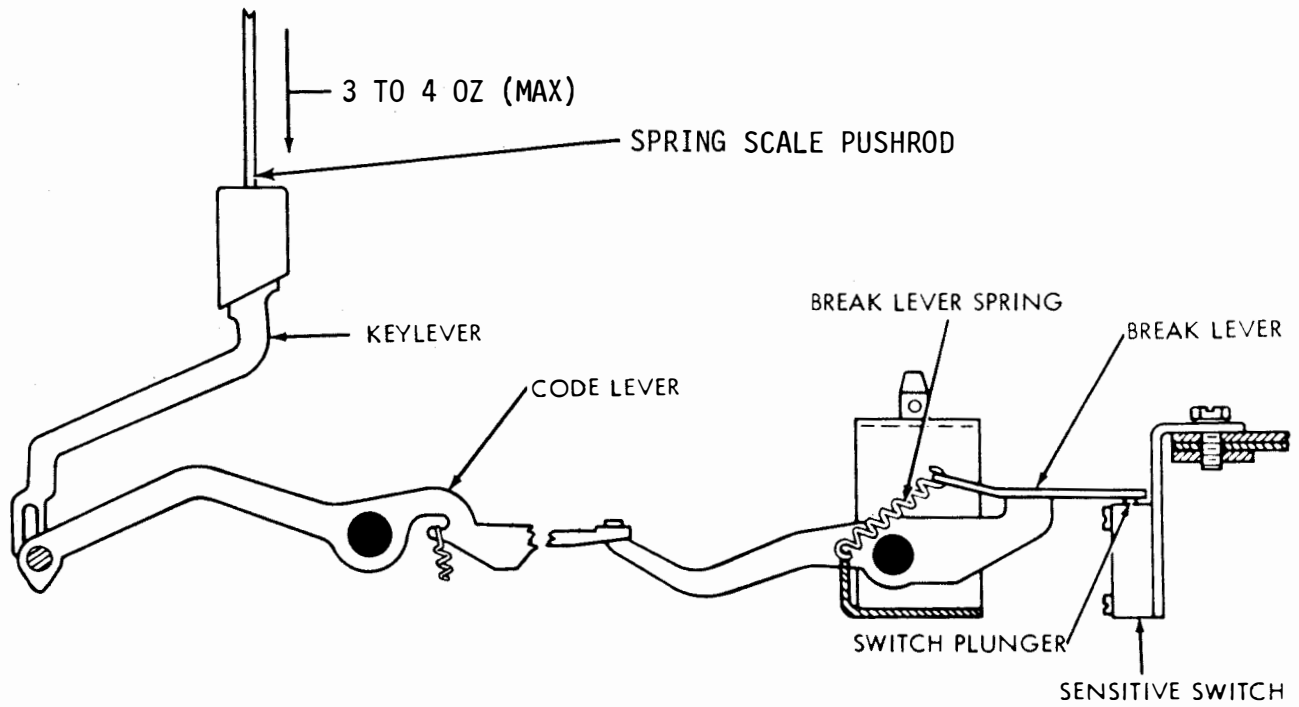

Figure 6-425. Line Break Lever Spring
(1) Refer to Figure 6-425.
(2) Apply spring scale pushrod to top of keylever and measure force required to move switch break lever in contact with switch plunger. This should be 3 to 4 ounces maximum.
(3) If requirement is not met, replace spring.